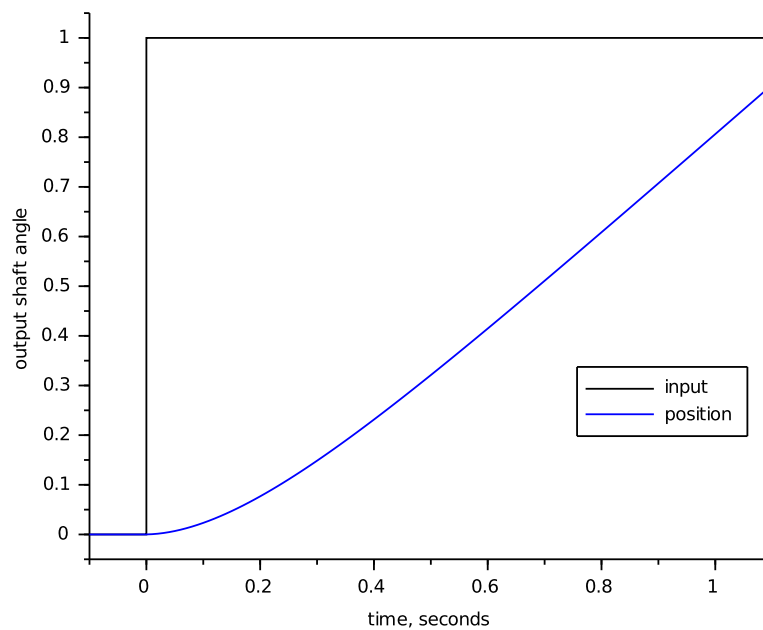
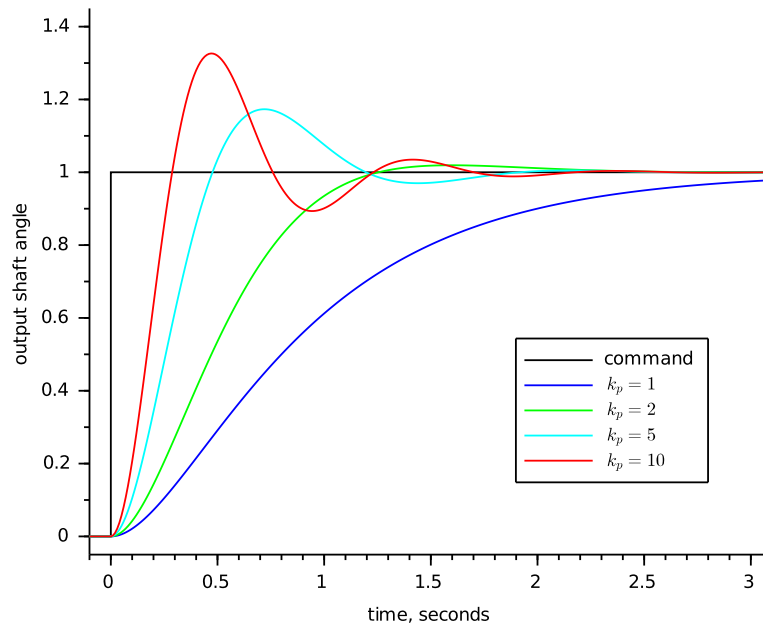
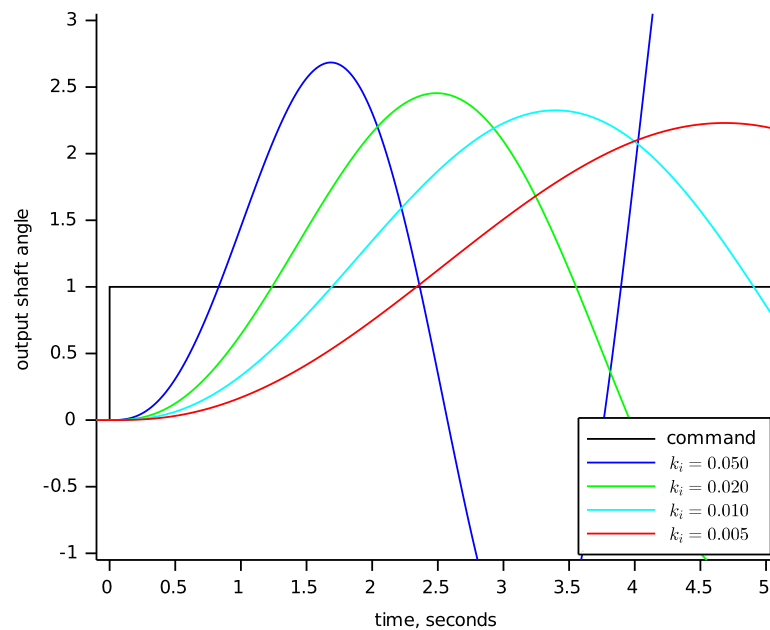
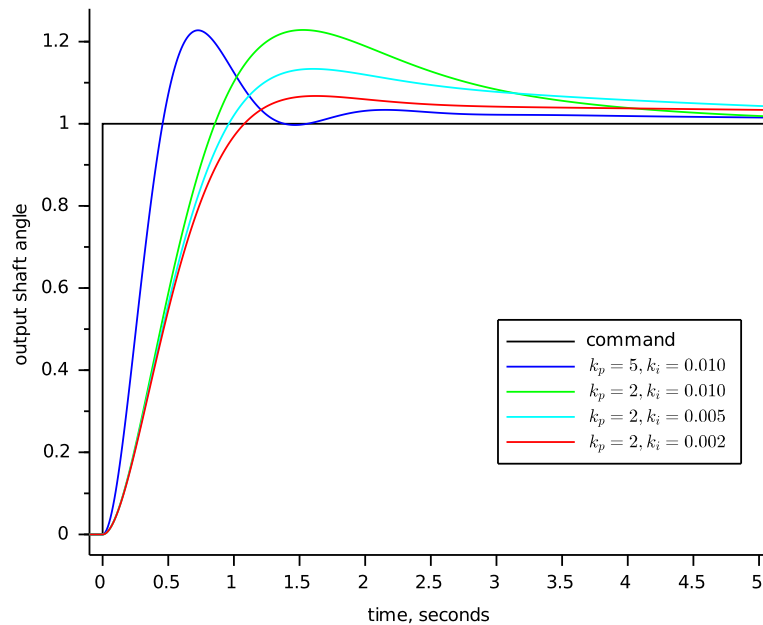

Figure 4: Motor step response.
Figure 9: Motor with proportional control.
Figure 12: Motor with pure integral control.
Figure 14: Motor with proportional-integral control.
Figure 9 on page 11 shows what happens when you add proportional feedback to the motor and gear system. For small gains (propGain or $k_p = 1$) the motor goes to the correct target, but it does so quite slowly. Increasing the gain ($k_p = 2$) speeds up the response to a point. Beyond that point ($k_p = 5$, $k_p = 10$) the motor starts out faster but overshoots
The reason the motor and gear start to overshoot with high gains it because of the delay in the motor response. If you look back at Figure 4 on page 5, you can see that the motor position doesn't start ramping up immediately. This delay, plus high feedback gain, is what causes the overshoot seen in Figure 9 on page 11.
Integral control by itself usually decreases stability, or destroys it altogether. Figure 12 on page 15 shows the motor and gear with pure integral control ($\text{propGain} = 0$) and a variety of integrator gains (integratGain or k_i). This system simply doesn't settle, no matter how low you set the integral gain. Like the precision actuator with proportional control, the motor and gear system with integral control along will oscillate with bigger and bigger swings until something hits a limit (hopefully the limit isn't breakable).
Figure 14 on page 17 shows the motor and gear with the proportional and integral (PI) control. Compare this with Figure 9 on page 11 and Figure 12 on page 15. The position takes longer to settle out than the system with pure proportional control, but unlike the motor with pure integral control it does settle out, and the system will not settle to the wrong spot.